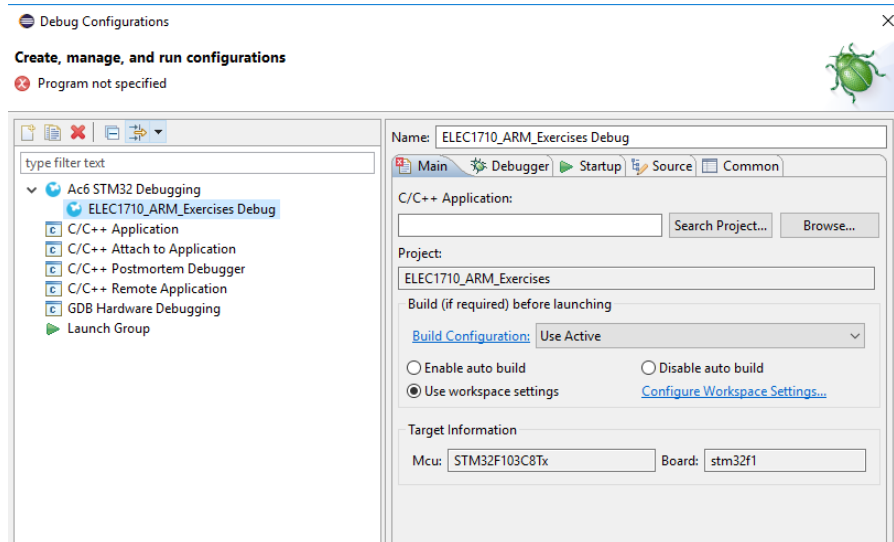
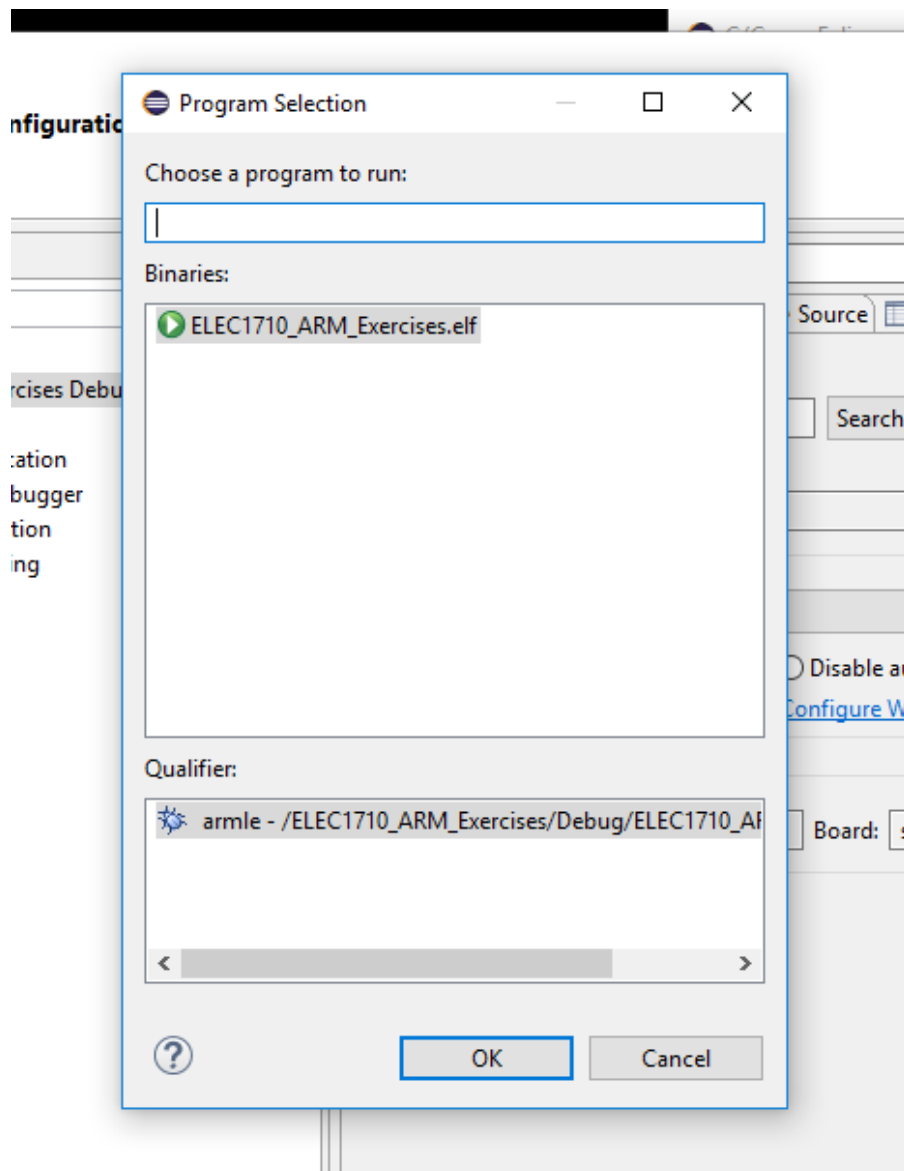
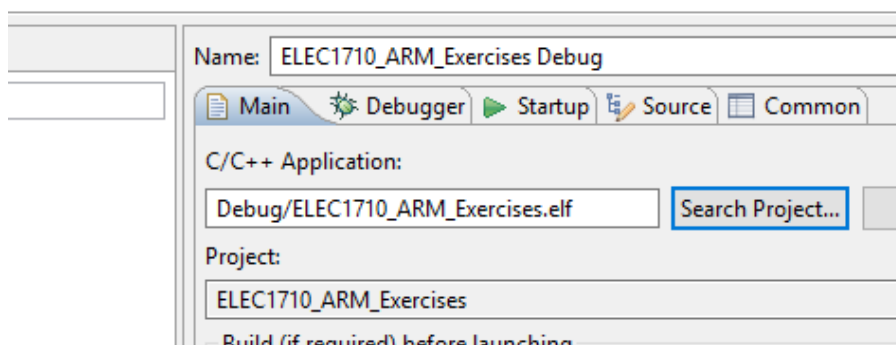

Figure 5: Configuring OpenOCD for the ST-Link debugger.
Figure 6: Configuring OpenOCD for the ST-Link debugger.
Figure 7: Configuring OpenOCD for the ST-Link debugger.
3. Select the new configuration and navigate to the 'main' tab as shown in Figure 5. If the box under C/C++ Application is empty, as it is in Figure 5, select 'search project' and choose the binary as shown in Figure 6. After selecting ok the .elf file should now be shown as it is in Figure 7